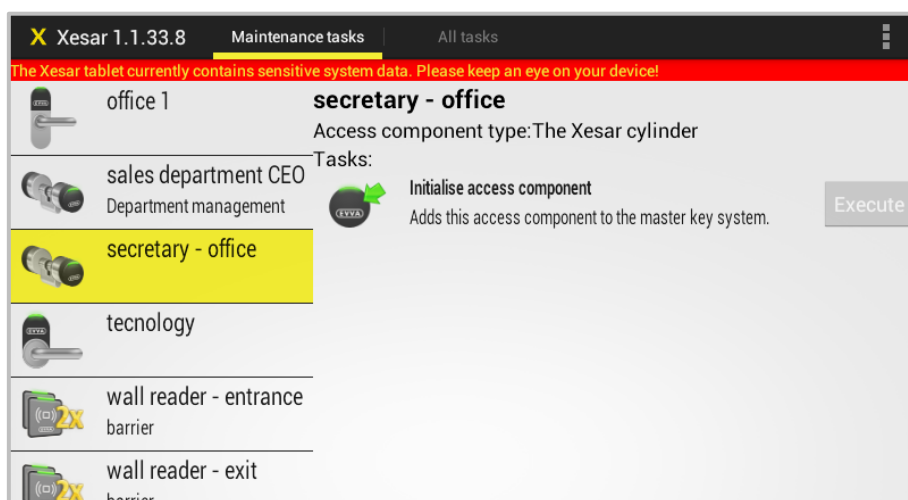

Figure 131: Xesar tablet — initialising Xesar access components
- Select the correct Xesar access component and the desired task you would like to run (Figure 131: Xesar tablet — initialising Xesar access components) from the maintenance task list on the Xesar tablet.